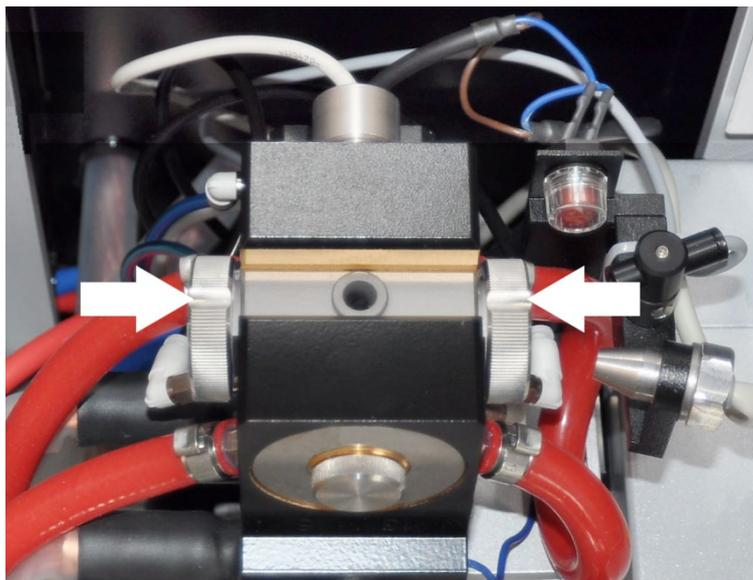

Fig. 51 Markings at the furnace windows
Identical markings must point up (→ Fig. 51)!
**Note:** Identical markings at the furnace windows must point up (see Fig. 51 on page 91).